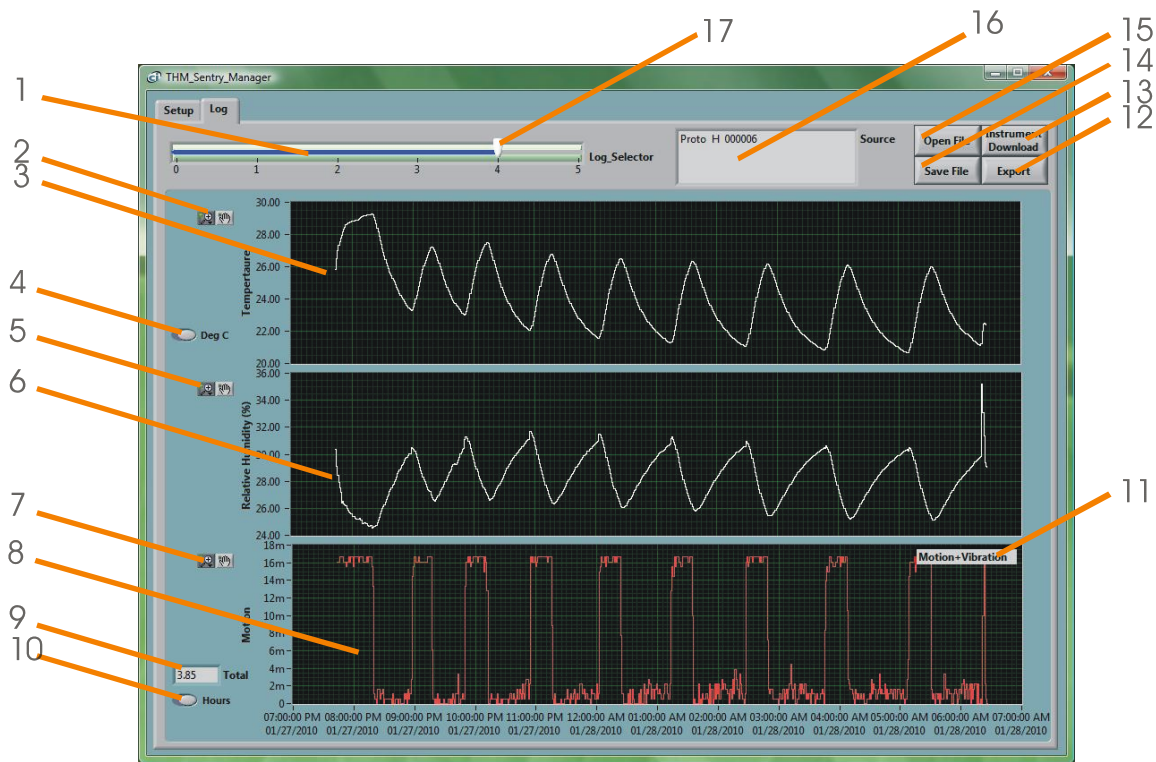

Figure 4: THM\_Sentry\_Manager Log tab
- **The Log Tab:** Is used to read, display and export the data from the *THM Sentry*'s recording memory (see figure 4).
The log tab is seen in figure 4. It is used to retrieve the recorded information from the *THM Sentry* or from a saved file, and to display and export the recorded logs.